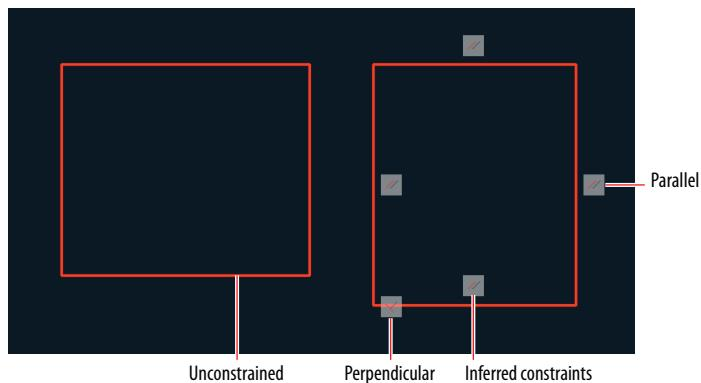

FIGURE 12.1 Drawing two rectangles, one unconstrained
- Type **REC** (for Rectangle), and press Enter. Click two more points to draw another arbitrarily sized rectangle adjacent and to the right of the first one (see Figure 12.1). AutoCAD automatically infers perpendicular and parallel constraints from the geometry of the second rectangle.